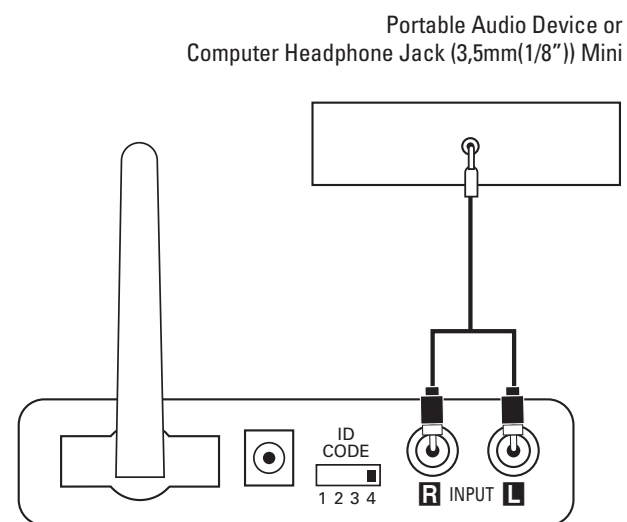

Figure 5.
Step 1. Connect the RCA – 1/8-inch mini-jack cable (included) to the preamp out, line out or headphone output of your portable audio player and the inputs on the transmitter module 14, as shown in Figure 5.